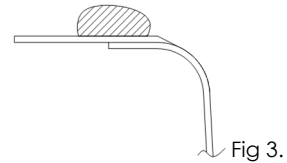

Fig 3.
5. Clean the outside rim of the sink and the worktop underside to remove any dirt or grease, allow to dry. Apply a continuous generous bead of good quality silicone onto the rim around the upper perimeter of the sink as shown in fig 3.